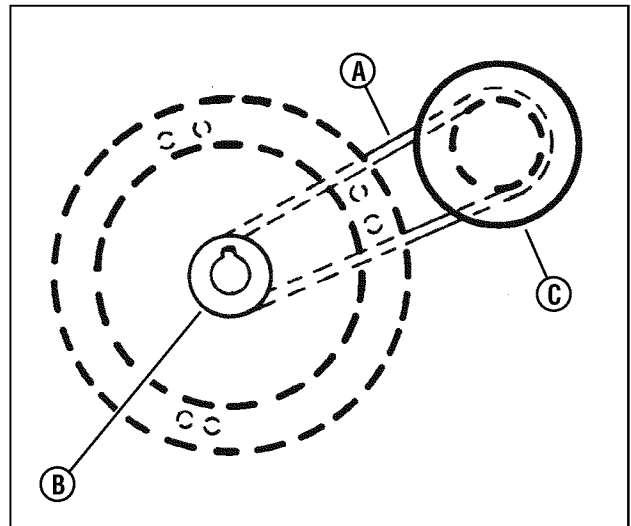

Figure 34: Engine drive belt routing
On self-propelled mowers, the engine belt (**A**, **Figure 34**) transmits power from the engine pulley (**B**) to the drive disc (**C**). The drive disc powers the poly-v belt, which engages the transmission that powers the rear wheels. Should these belts become worn, they could cause slippage, which would impair mower performance. The condition of the engine belt and poly-v belt should be checked after every 25 hours of mower operation.
2. Note the belt routing (**Figure 34**). There is no idler pulley on these models to disconnect.